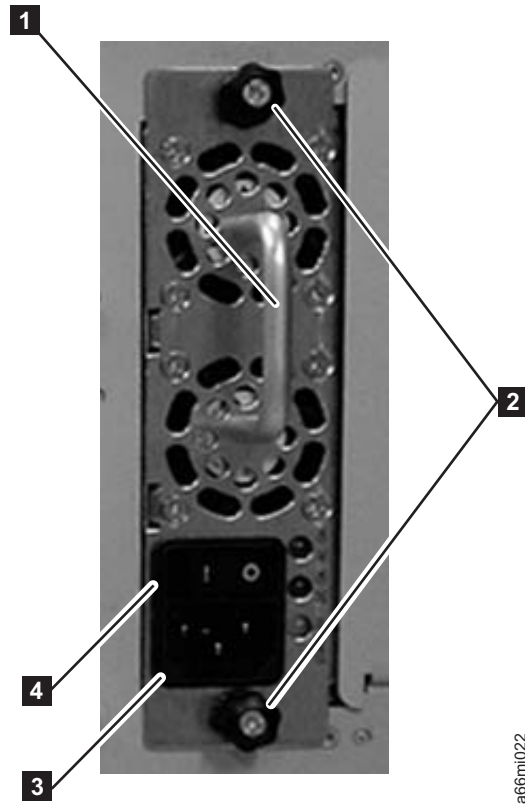

Figure 3-6. Power Supply
1. Loosen the two thumb screws (**2** in Figure 3-6) on the power supply by turning them counterclockwise.
2. To remove the power supply, grasp the handle (**1** in Figure 3-6) and slowly pull it toward you, while supporting it from underneath.